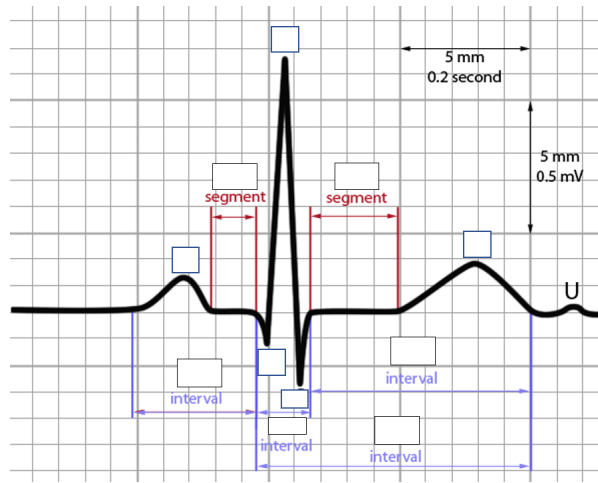

Figure 3: ECG signal
1. Label the P wave, T wave and QRS complex, each segment and interval in *Figure 3* (fill the blank spaces).